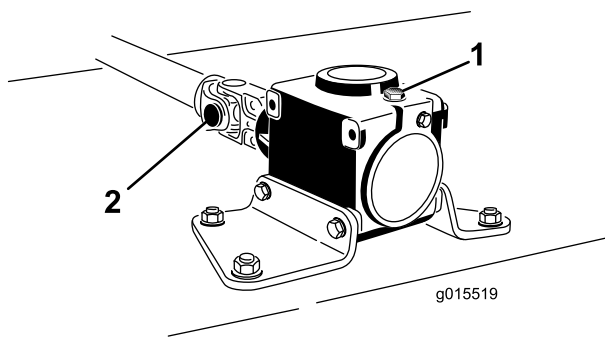

Figure 3
- Remove the roll pin from the end yoke and the gearbox shaft (Figure 3). Retain the roll pin for re-use.
- Loosen the (2) capscrews and lock nuts (Figure 3).